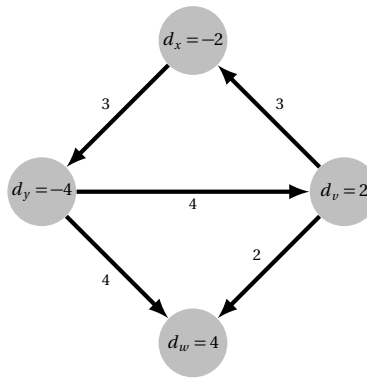
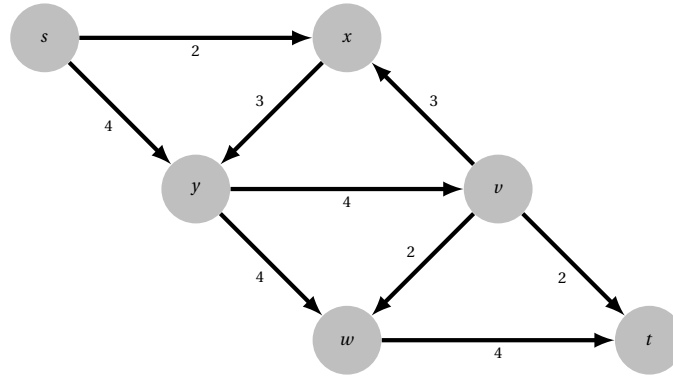

Figure 1: An instance of the circulation with demands problem. The demand is indicated in each vertex, and the capacity in each edge.
Figure 2: The supergraph  $G'$  obtained from  $G$  presented in Figure 1 so that a max-flow problem can be solved.
**Problem 1.** Consider the following circulation with demands problem presented in Figure 1. Does it have a feasible solution?
Figure 2 presents the supergraph  $G'$  obtained from  $G$  presented in Figure 1.